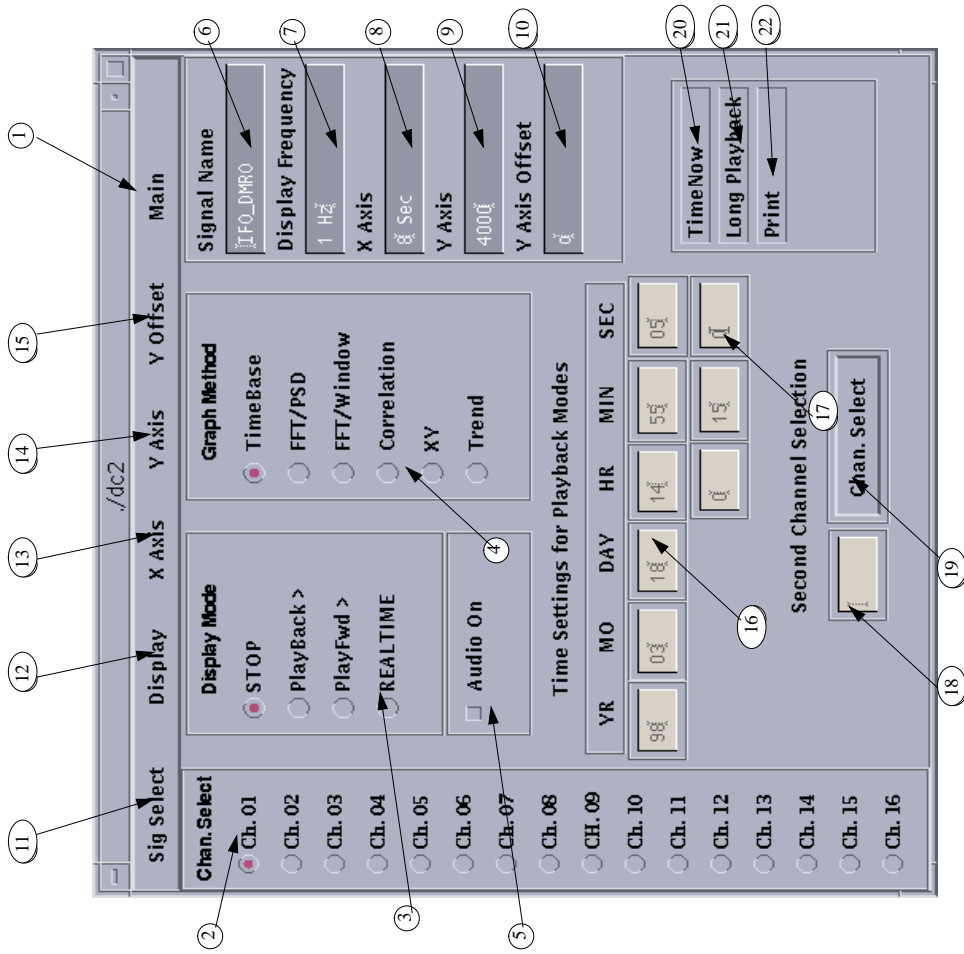

Figure 2: Data Display Control Panel
Data is displayed through the use of xmgr as shown in Figure 3. It is set up to show up to 16 data graphs, number 1 at the lower left to number 16 in the upper right. The display channel number and signal identifier are shown above each graph. In addition, whatever signal is selected is displayed in a larger area in the top left of the display, with the time of the last frame shown above the graph. Figure 2 shows the display panel which is used to control the display of data in xmgr.
The display of figure 2 is typically always running on the center screen of the DAQS console, with the xmgr display on the right most console screen. If they are not, first make sure that they have not been iconized. If they are found to not be running:
4. Enter "startDisplay". This will cause the display control panel (Figure 2) to display on the center console screen.
5. On the display control panel, select the "Main" menu (item 1 of Figure 2). This is a pull down menu, the first item of which is "Start". Select this menu item. This will initialize the display control software, bringing the display of xmgr on the right screen, setting the channel select to
The display frequency controls how often the data being updated. The choices of 1, 2, 4, 8, or 16 Hertz are available. The default is set to 1 Hz. To change display frequency, click on the pull-down menu "Display" (item 12 of Figure 2) and select the desired number from the submenu "Display Frequency". The display frequency will be shown at the Display Frequency field (item 7, Figure 2). If the xmgr display gets too slow, you may want to choose less frequency or choose less number of channels (see Window Number below) for display.
The Window Number is the number of channels for the xmgr display. The maximum Window Number (default) is 16. To change Window Number, click on the pull-down menu "Display" (item 12 of Figure 2) and select a number from the submenu "Window Number".
1. Select "REALTIME" from the "Display Mode" (item 3 of Figure 2) area of the display control panel. On startup, the software automatically selects the first 16 fast (16KHz) data channels for display and these will appear in the xmgr plots. The name of the signal being plotted in each graph will appear above each graph with the display channel number.
2. To change the signal being sent to a particular xmgr plot, select the desired plot/channel number from the Chan. Select radio button (item 2 of Figure 2). As each is selected, the signal name, display frequency, and graph axis information will be displayed in items 6 through 10 of figure 2. Next, open the "Sig Select" menu (item 11 of Figure 2) and select the desired signal from the submenu choices. When selected, the new signal name will appear in the "Signal Name" field (item 6) and the new signal will appear in the appropriate xmgr graph area.
3. The Y axis is selectable from the Y axis menu. To set the axis, first select the desired channel from the Chan. Select (item 2). Then open the Y axis menu (item 14) and select the desired scale from the submenu selections. The Y axis can also be entered manually by moving the cursor into the Y Axis field (item 9) and typing in a setting (must type **Enter** after typing a number in the field).
4. The Y axis offset is also adjustable. Again, select the desired channel and then make a selection from the Y Offset Menu or enter a value in the Y Axis Offset field (item 10).
5. To adjust the setting for the X axis, select the desired channel, open the X Axis menu (item 13 of Figure 2), and make a selection from the menu. Note that unlike the Y axis, the X axis can not be changed by typing a setting in the X axis field.
7. Selecting "Quit" from the "Main" menu (item 1 of Figure 2) will set xmgr in an interactive mode. The xmgr display will be independent from the control panel and all of the xmgr menu and buttons become available. A new xmgr display may be started by selecting "Start" from the "Main" menu as described in 3.2.1.5.
1. First, the playback start time must be selected. This is done by entering the second, hour, minute, day, month and year into the fields shown in Figure 2, item 16 (press **Enter** after each entry!). To quickly set all fields to the present time, the TimeNow (item 20) can be selected.
2. Select the time period to be displayed by entering hours, minutes and seconds into the fields of item 17, Figure 2.
3. Select "Playback >" from the Display Mode panel (item 3, Figure 2). The xmgr display will now start updating data, starting at the playback start time set in step 1 minus the playback time duration set in step 2. As an example, using the values setup as shown in Figure 2, when the Playback button is selected, the software will begin by reading the frame from 14:40:05 and continue reading and displaying data from incremental frames until 14:55:04. The xmgr display appears the same as if data were being displayed in realtime.
This mode is setup using the same first two steps of playback mode, except select PlayFwd from the Display Mode area. In this mode, using the examples of the settings in Figure 2, the xmgr display would be updated with data starting at 14:55:05 and continue incrementing at one second intervals until the frame from 15:10:04 is reached.
Again, this playback mode is setup the same as the others, with a start time and playback duration. Once these are set, select the Long Playback button (item 21 of figure 2). While the other two playback modes make use of the same xmgr window as the realtime mode, this mode will start a new xmgr window and graph in TimeBase or Trend for all 16 graphs (even when different window numbers are selected). This new xmgr window will not display any information until all of the data from the selected time period has been read. After that, all graphs will be plotted and the xmgr window will become interactive. To use that xmgr window, see the xmgr user's guide.
Six choices are available on the Graph Method panel (item 4, Figure 2) to display data channels: "TimeBase", "FFT/PSD", "FFT/Window", "Correlation", "XY", and "Trend". The default is set to "TimeBase". When one of the first five choices is selected, the large area in the top left of the display shows the selected data channel(s) under the selected method while other plotting areas show graphs in the TimeBase. When "Trend" is selected, all the plotting areas show trend data. The adjustments for the X and Y axis are recorded separately for each graphic method. These adjustments will affect all channels in general; except in the case of "TimeBase", "XY", or "Trend" while the Y axis is selected for each channel. Note that the display frequency is selectable only for "TimeBase", it is set to 1 Hz automatically for other graphic methods.